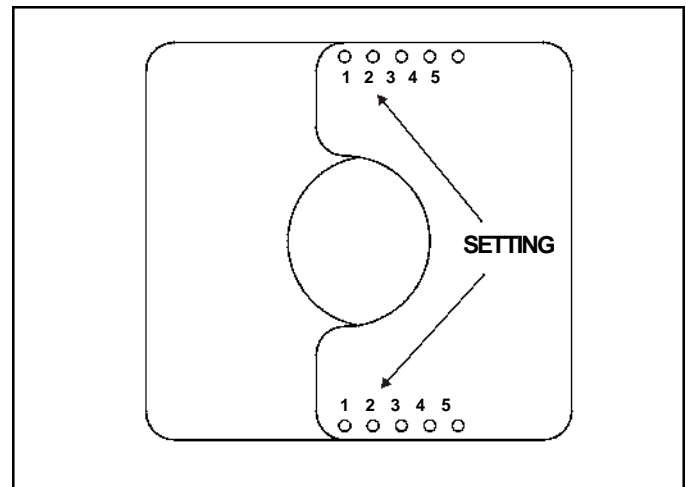

Figure 4.7 Setting the Exhaust Restrictor for MEZZO-1000-AU
3. The setting for MEZZO-1000-AU is 2-2. Align the holes marked "2" on the numbered exhaust restrictor piece with the hole on the other exhaust restrictor piece. See Figure 4.7. Align the exhaust restrictor pieces with the pilot holes in the inner firebox chamber. Use two 1/2 in. (13 mm) self-piercing screws to secure vent restrictor to firebox heat shield.